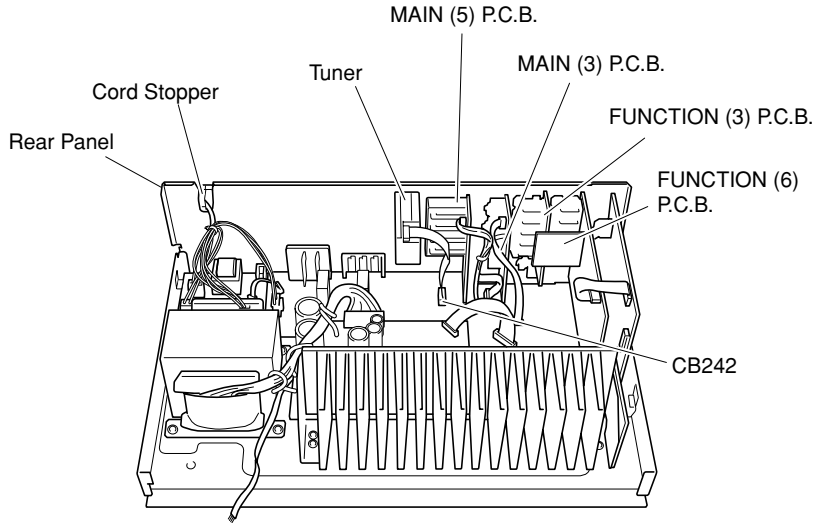

Fig. 2
3. Removal of MAIN (3), MAIN (5), FUNCTION (3), FUNCTION (6) P.C.B.s and Tuner
- a. Remove CB242. (Fig. 2)
- c. Remove MAIN (3), MAIN (5) P.C.B.s and the Tuner. (Fig. 2)
- g. Remove Cord Stopper. (Fig. 2)
- h. Remove Rear Panel. (Fig. 2)
- i. Remove, FUNCTION (3) and FUNCTION (6) P.C.B.s. (Fig. 2)